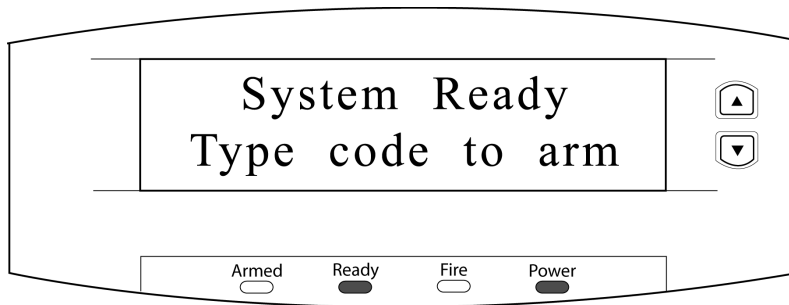

Figure 2: Alarm Panel - System Ready
1. When the alarm control panel is first powered up, the LCD shows the following message (see Figure 2).
8. Select the **\*** key to save the selection and return to the Alarm Panel - Enter Location screen. The alarm panel is now configured to work in connection with the PXL-510. Select the "Exit" button and the LCD displays the System Ready message (see Figure 2 on page 2).